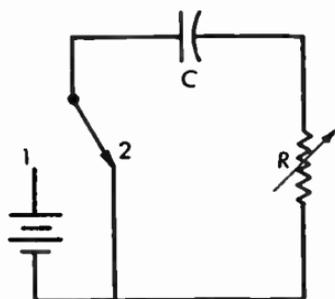

Fig. 13.06 Equivalent circuit of a charge and discharge path of a capacitor.
**3.06** The capacitor  $C$  in Figure 13.06, having been charged to  $E$  volts, is to be discharged by throwing the switch to position No. 2. If a residual charge of 0.75 per cent of the original charge is considered to be a practical discharge, after how many  $RC$ -time constants will the capacitor be practically discharged?